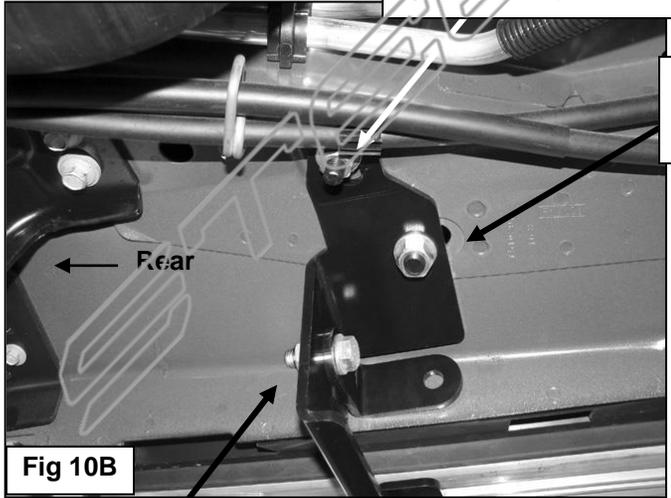

Fig 10B
8. Position the Rear Mounting Bracket over the (2) Bolt Plates. Secure the Bracket to the 12mm Bolt Plate with (1) 12mm Flat Washer, (1) 12mm Lock Washer and (1) 12mm Hex Nut, **(Figure 10B)**. Bolt the Bracket to the 10mm Bolt Plate with (1) 10mm x 27mm OD Large Flat Washer, (1) 10mm Lock Washer and (1) 10mm Hex Nut. Snug hardware but do not tighten at this time.
9. Next, select (1) "L" rear Support Bracket, **(Figure 10A)**. Bolt the Support Bracket to the front facing side of the rear Mounting Bracket with (1) 10mm x 30mm Hex Bolt, (2) 10mm x 20mm STD Flat Washers and (1) 10mm Nylon Lock Nut, **(Figures 10B)**. Do not tighten hardware at this time.